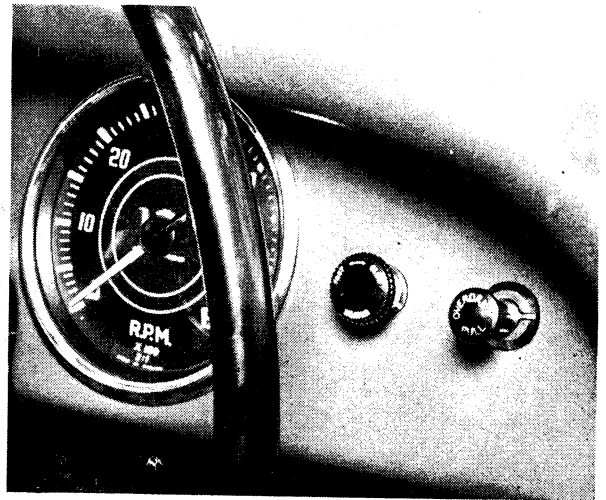

Fig. 39 Showing the position of the Overdrive Control.
R.H. Drive Cars. Two holes are pierced in the facia panel on the R.H. side of the speedometer and covered with fabric. The fabric should be pierced through the extreme R.H. hole and the operating switch fitted (see Fig. 39). The remaining hole is used for a heater switch when fitted.